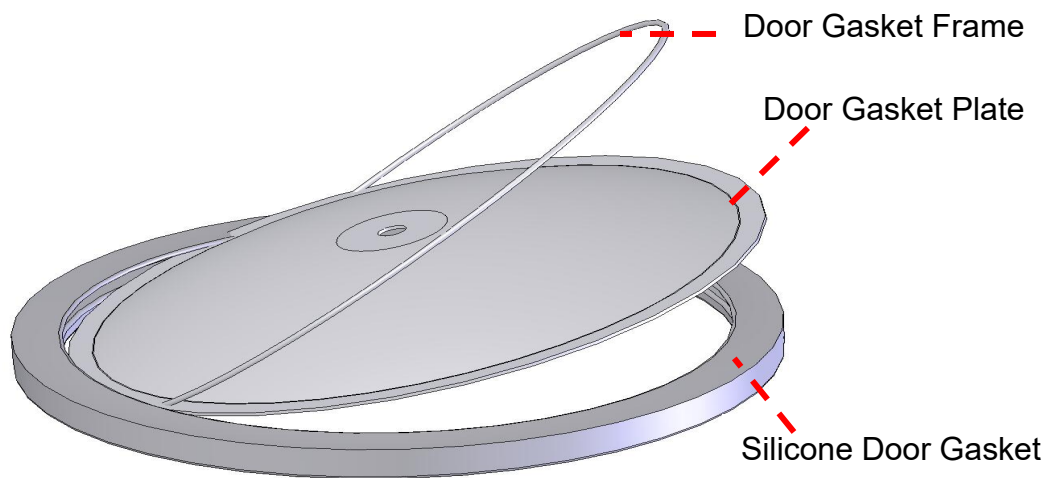

Figure 73
1. Remove the gasket assembly from the door groove, and then take out the door gasket frame, door gasket plate from the old gasket. Install the door gasket frame, door gasket plate to the new gasket as shown in Figure 73 °